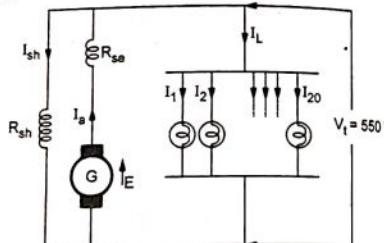

Fig. 7.12.4 (a)
**Sol.:** Consider the arrangement as shown in the Fig. 7.12.4 (a).